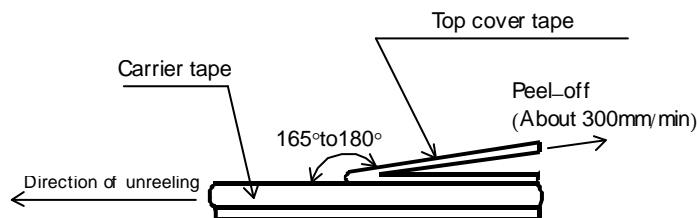

Figure-6
- 5). The peel strength of the top cover tape shall be within 0.1N to 0.5N on the test method as shown in the following Figure-6.